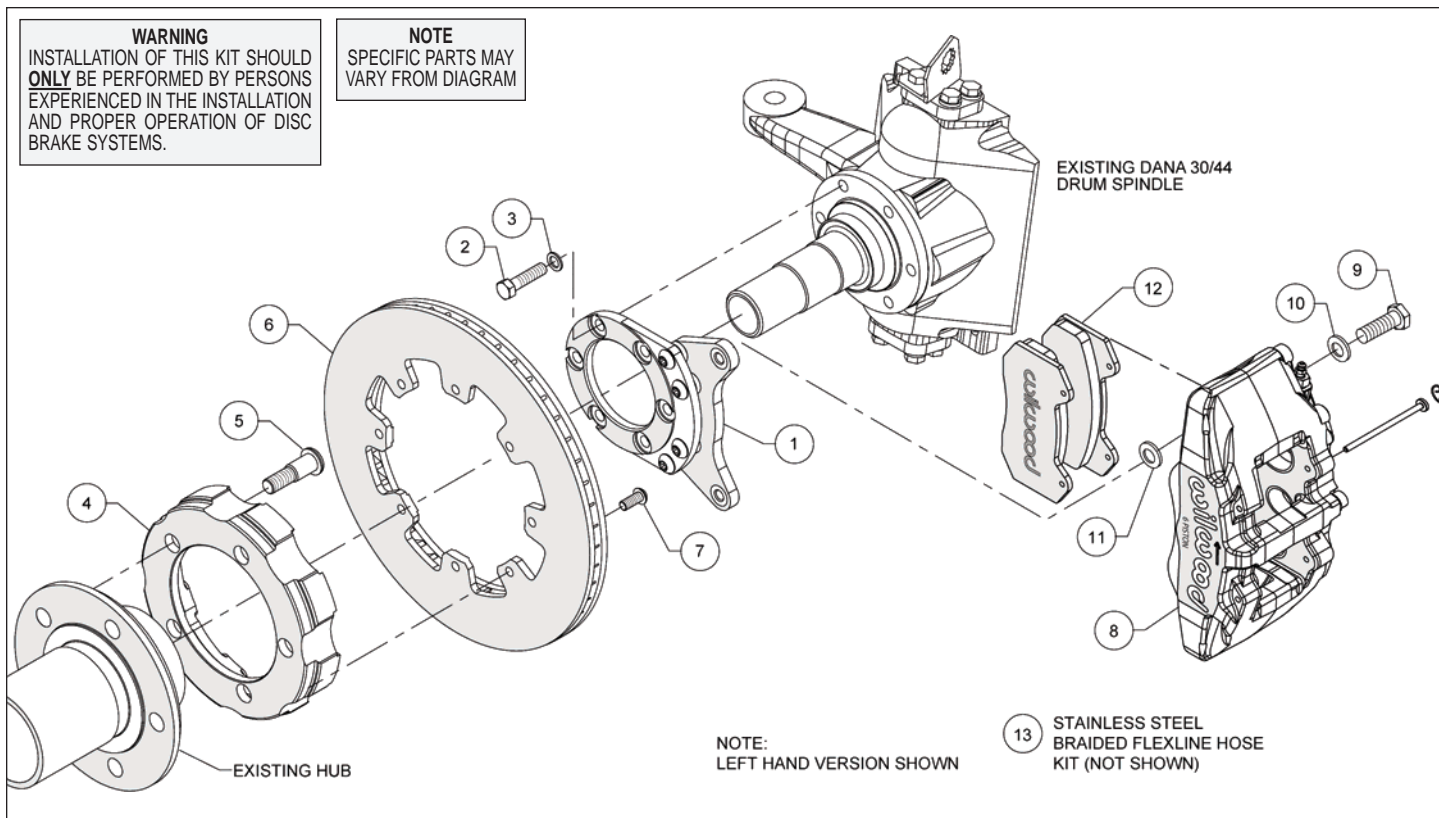
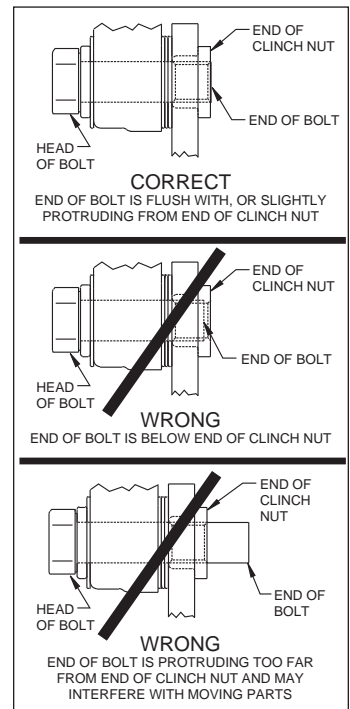

Figure 1. Typical Installation Configuration
Figure 3. Clinch Nut Engagement Diagram
Assembly Instructions (numbers in parenthesis refer to the parts list and Figure 1 on the preceding pages): **CAUTION:** *All mounting bolts must fully engage clinch nuts.* Be sure to check that all bolts are either flush or protruding through flanged side of clinch nut after shimming, Figure 3.
- Orient the caliper mount bracket (1) as shown in Figure 1 and Photo 1, and install using bolts (2), and washers (3). Ensure that the flanged heads of the clinch nuts in the bracket are facing outboard, Photo 1. Temporarily tighten the mounting bolts. **NOTE:** *The bracket must fit squarely against the mount bosses on the upright.* Inspect for interference from casting irregularities, machining ridges, burrs, etc. Remove bolts one at a time, apply red *Loctite*[®] 271 to the threads and torque to 40 ft-lb.
- Orient the hat (4) and the OEM hub as shown in Figure 1 and Photo 2. **NOTE:** *The hat must fit flush against the axle hub or excessive rotor run out may result.* Press fit the wheel studs (5) thru the holes in the hat and into the existing hub. **NOTE:** *We recommend this procedure be performed by a qualified machinist.*
- Orient the rotor (6) and the hat/hub assembly as shown in Figure 1 and Photo 3. Attach rotor to hat using bolts (7). Using an alternating sequence, apply red *Loctite*[®] 271 to the threads, and torque to 25 ft-lbs.
- NOTE:** *Please reference the caution statement at the beginning of the assembly instructions. This kit contains distinct right and left hand calipers that must be mounted in a specific direction, as described below.* Mount the caliper (8) onto the caliper mounting bracket (1) using bolts (9) and washers (10), as shown in Figure 1. Initially place one .035" thick shim (11) on each bolt between the caliper and the bracket, Photo 5. Ensure that the caliper is mounted so the largest pistons are at the rotor exit end of the caliper, in relation to the direction of rotor rotation. Temporarily tighten the mounting bolts and view the rotor (6) through the top opening of the caliper. The rotor should be centered in the caliper, Photo 6. If not, adjust by adding or subtracting shims
between the bracket and the caliper. Always use the same amount of shims on each of the two mounting bolts. **NOTE:** The end of each bolt must be flush with or slightly protruding from the head of the clinch nut, as shown in Figure 3. If necessary place spare shims between washer (10) and caliper mounting ear to achieve the proper clinch nut engagement. Once the caliper alignment and clinch nut engagement are correct, remove the caliper bolts and caliper.
- Remove the two pad retaining pins from the caliper (8) by carefully popping out the pin retaining clips and sliding out the pins. Insert the brake pads (12) into the caliper from the bottom, Figure 1 and Photo 7, with the friction material facing the rotor. Secure the brake pads in place with the pad retaining pins and clips, Photo 8. Reinstall the caliper onto the caliper mounting bracket. Apply red *Loctite*® 271 to bolt threads (9), and torque to 40 ft-lb.